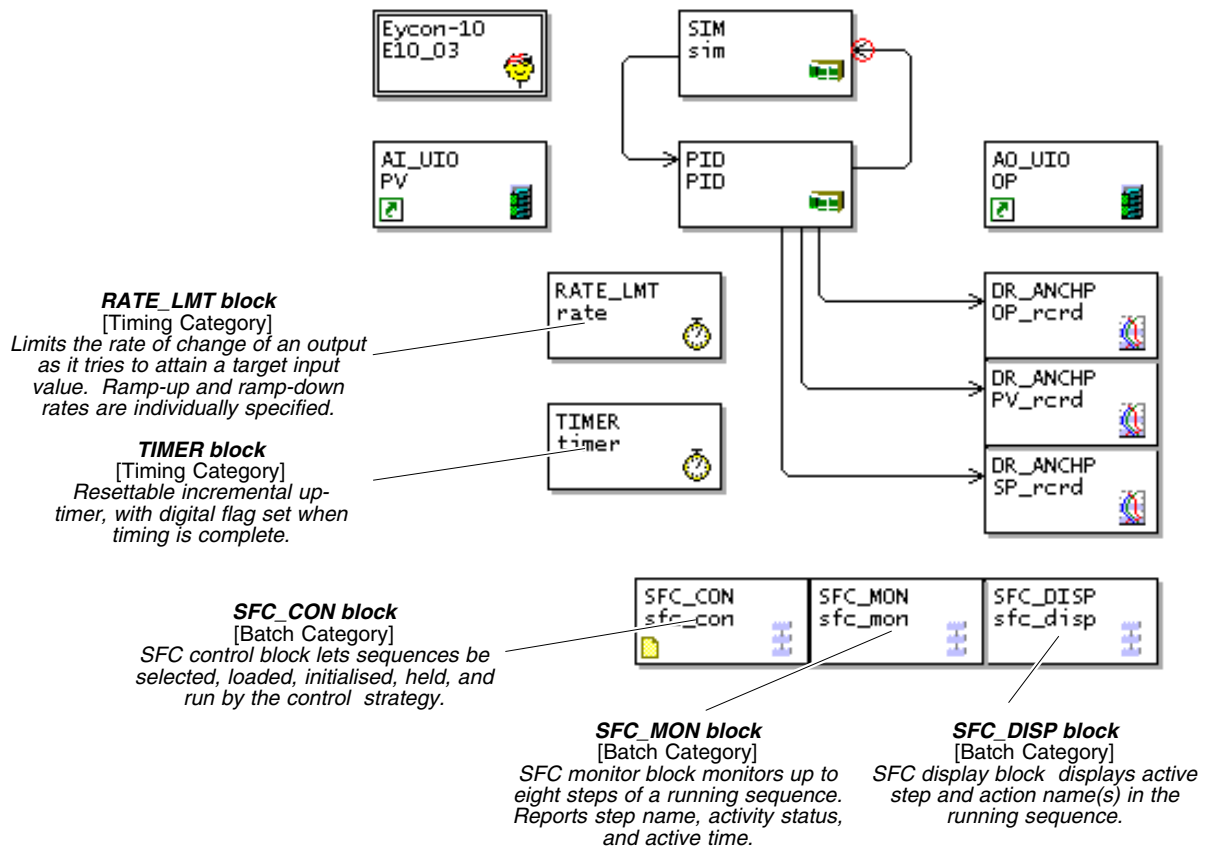

Figure 8-1 The simple PID loop strategy adapted for sequence
Figure 8-1 shows the (simulation) PID loop strategy you created in Chapter 2, but with five new blocks, SFC\_CON, SFC\_MON, SFC\_DISP, RATE\_LMT, and TIMER, added to give the strategy sequence and timed ramping capability. The AI\_UIO and AO\_UIO blocks have been deleted as they are not needed in this simulation strategy.
- 1 Open the simulated PID loop strategy you built in Chapter 2 in LINTools, by double-clicking its icon in Explorer view. Delete or ignore the AI\_UIO and AO\_UIO blocks, then add the five new blocks as shown in Figure 8-1.
<p>Note *(Block type) blockname.field.subfield format, referring to Figure 8-1. New wiring is listed below the dashed line.</p>
You must also edit the **Name** fields in all blocks, see Figure 8-1.
<p>Note *(Block type) blockname.field.subfield format, referring to Figure8-1</p>